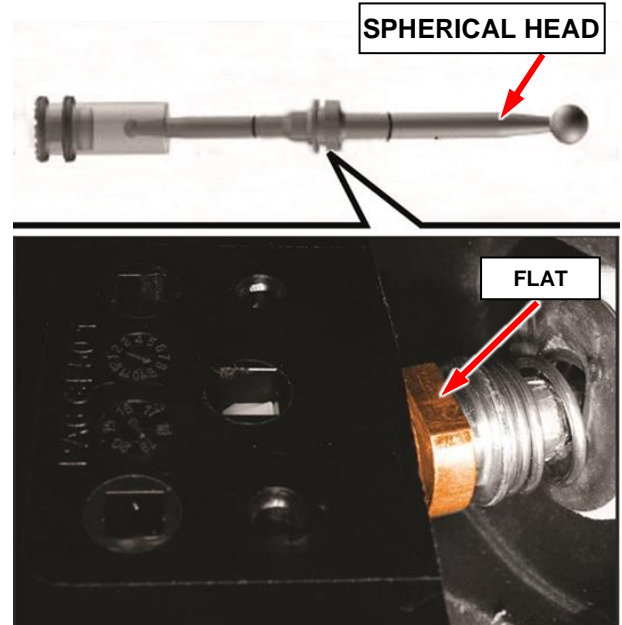

Figure 5 – Push Rod Alignment
- Align the push rod so that the area where you will later act (flat) with the torque wrench is in the position between 4 and 5 o'clock (Figure 5).
12. Hold the locking pliers with one hand and partially tighten the spherical head assembly if necessary (Figure 5).